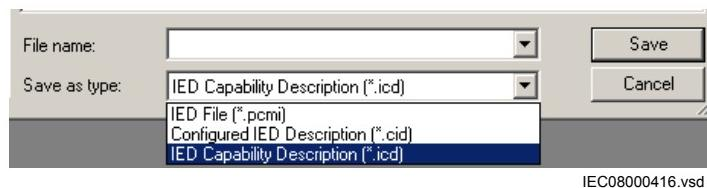

Figure 65: IEC 61850: Export IED file type selection
- IED Capability Description (*.icd) for the IEC 61850 structure, see Figure 65.